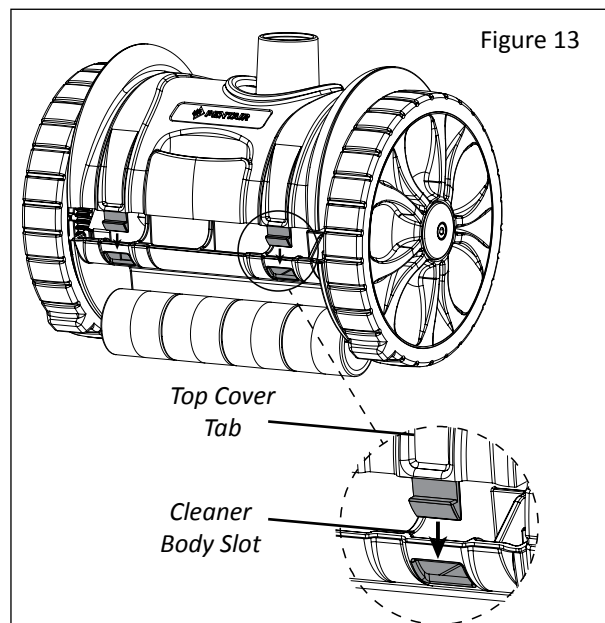

Figure 13
10. Place the tabs on the back side of the top cover into the slots on the back side of the cleaner body (see **Figure 13**). Once these tabs are seated in the slots the front of the cover will fall into place.